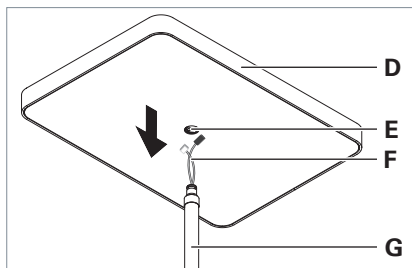

Fig. 8: Inserting the light head.
- Place the light head **D** on the column **G** while passing the cables **F** through the opening **E** at the light head, see Fig. 8.